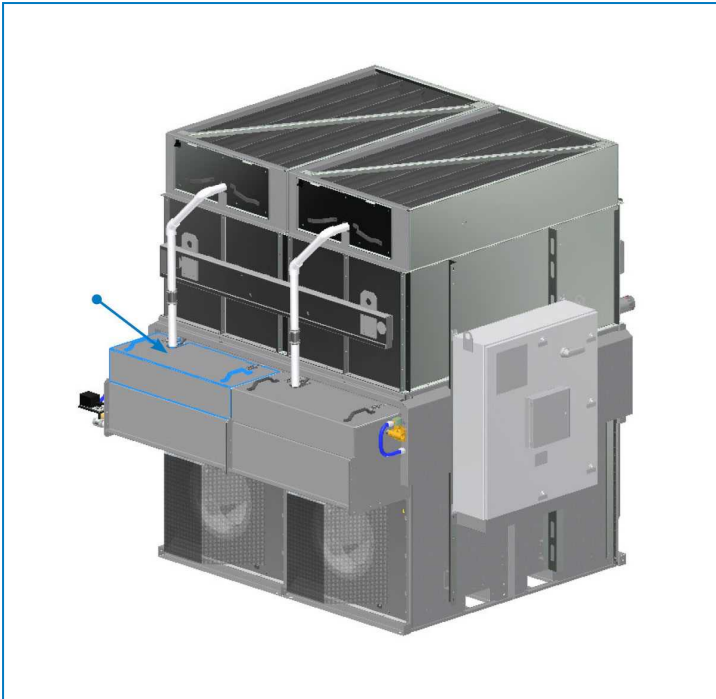

Fig. 13 Location of pump wiring
3. Remove the basin cover, then find the pump wire stored within the basin. See figure 13.